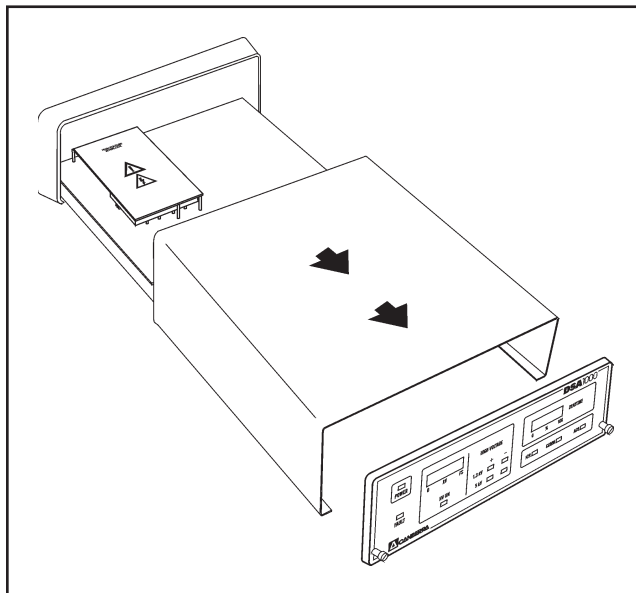

Figure 41 High Voltage Interlock Board Exposed
2. Slide the top cover forward to expose the high voltage Interlock board as shown in Figure 41. The top cover slides in channels provided on each side of the aluminum base. Its not necessary to fully remove the cover, but if it inadvertently comes off make certain it engages the channels on each side of the base when reinstalling it.